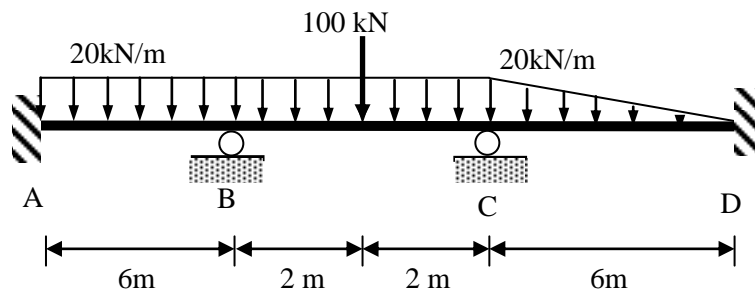

Figure 7
4. (a) **Figure 7** shows a beam carrying a uniformly distributed load of 20 kN/m on span ABC, a triangular load varying from 20 kN/m to 0 kN/m on span CD and a point load of 100kN at mid span BC. Supports A and D are fixed and supports B and C are on roller. The values of E and I are given as 200 GPa and $600 \times 10^6 \text{ mm}^4$, respectively. Using Moment Distribution Method, calculate internal moments at the supports of the beam. Hence sketch the deflected shape and bending moment of the frame. Neglect axial deformation. [16 marks]